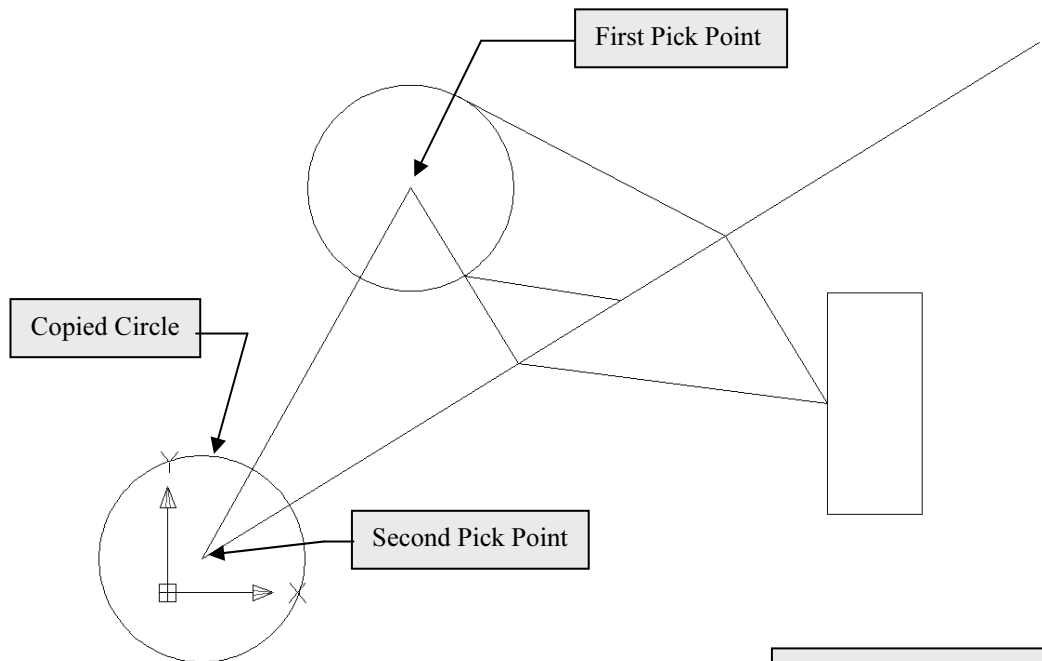

Figure 2-3.4
8. Pick the **Center** of the **circle** as the base point (Figure 2-3.4).
9. Pick the **Endpoint** of the angled line in the lower left corner. (See Figures 2-3.4 and 2-3.5.)
When you need to Move or Copy something to a very specific location, you can type in the distance and angle from the original entity (i.e., use the first point as displacement). This is very useful when you do not have any entities drawn that represent this distance and angle (e.g., as per the steps when you copied the circle, Figure 2-3.4).